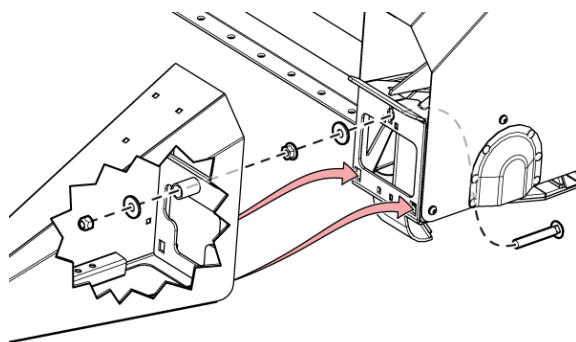

Fig. 34 - Install Crop Divider
Ensure the crop dividers are properly installed & free from material buildup. (See Fig. 34 on page 31)
- ☐ Ensure the crop dividers are properly installed & free from material buildup. (See Fig. 34 on page 31)